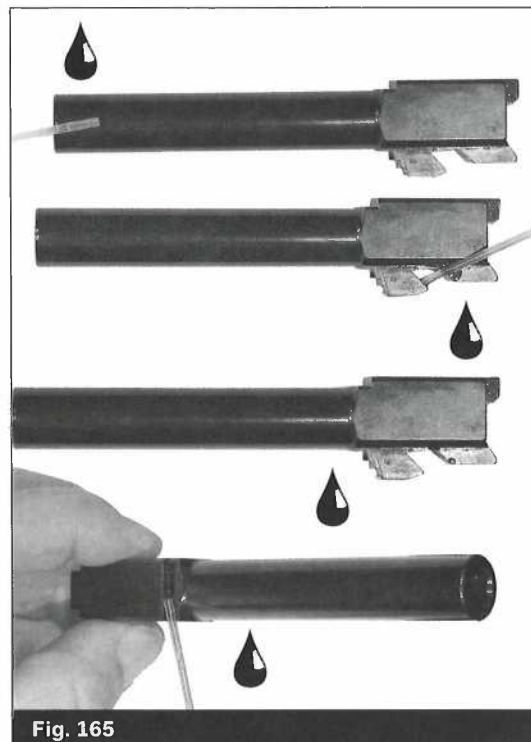

Fig. 165
- Slightly dampen a clean patch with gun oil or cleaner-lubricant-preservative and wipe the outside of the barrel, including the barrel hood and lugs and the inside top of the slide in front of the ejection port where the barrel hood rubs against the slide. (Fig. 165)